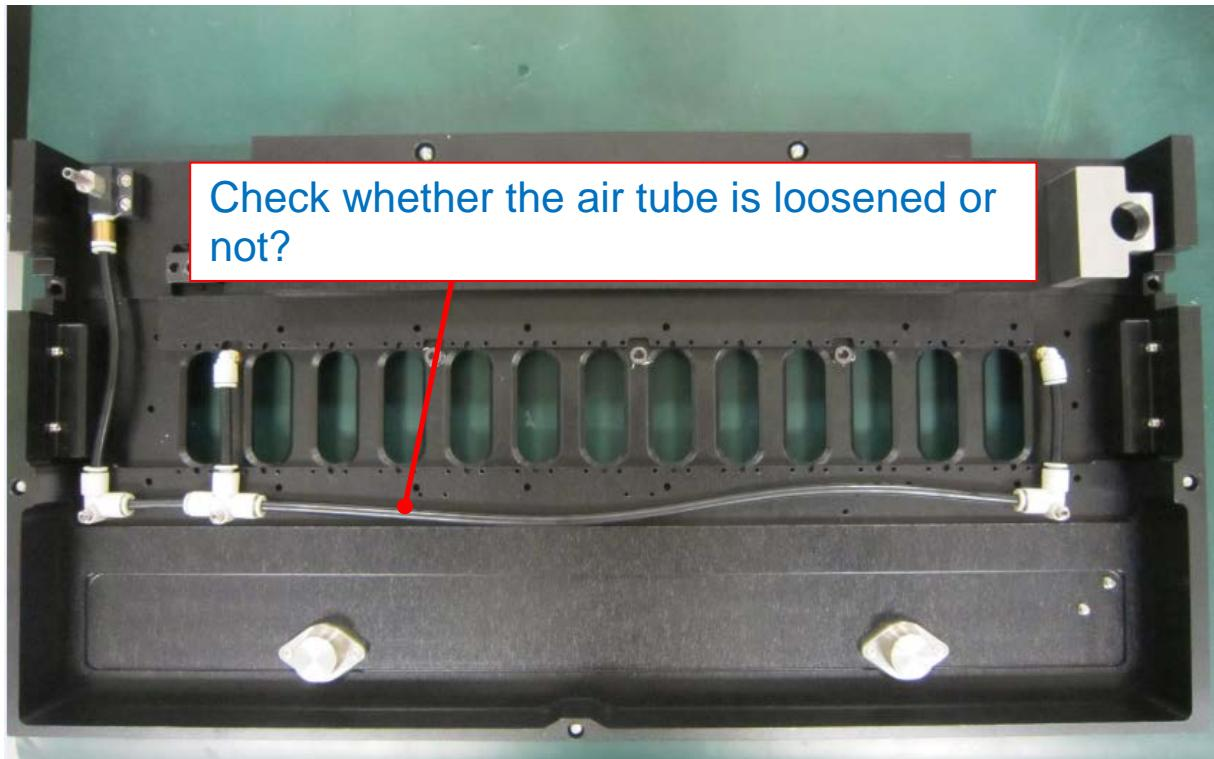

Figure 4-8 Rear panel of positioning plate set-A
Step 1: Place acrylic sheet on the top of zone A first as *Figure 4-8* shows.